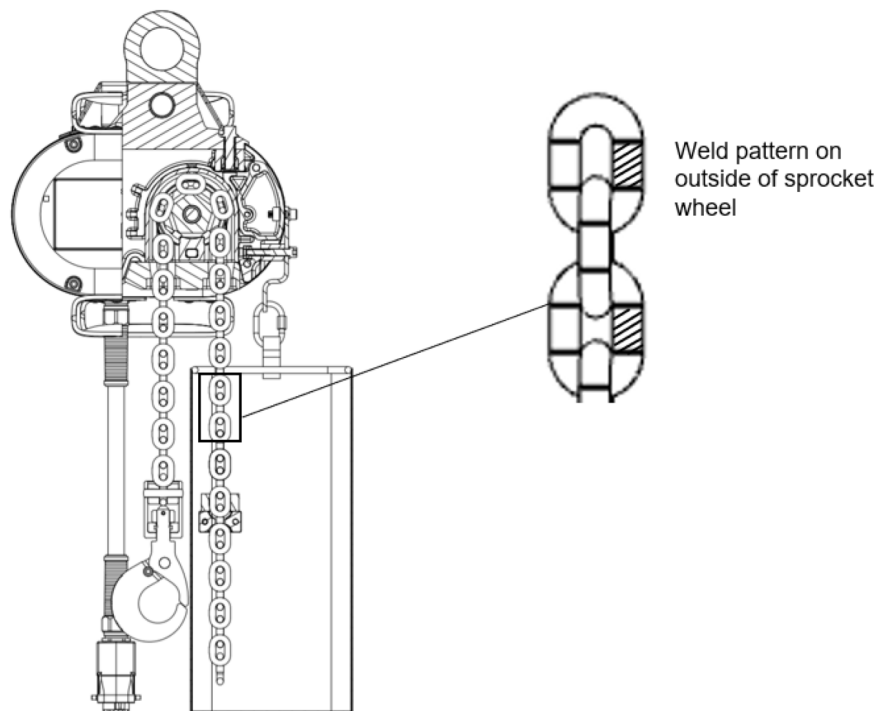

Figure 16. Load chain weld pattern
**Important: the new load chain must be installed with the weld pattern on the outside of the sprocket wheel as shown in Figure 16.**